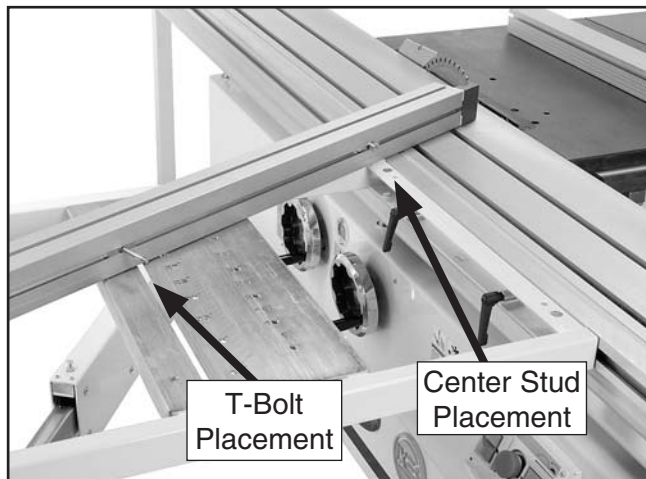

Figure 30. Crosscut fence placement.
26. Position the center stud and the T-bolt of the crosscut fence into the placement holes shown in **Figure 30**.